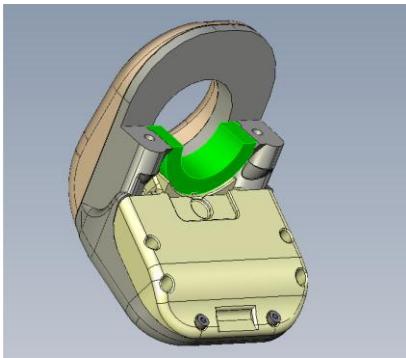

Figure 11: SecurNozzle with Rubber Insert in place
Step 1: Place the rubber insert into the SecurNozzle as indicated in Figure 11.